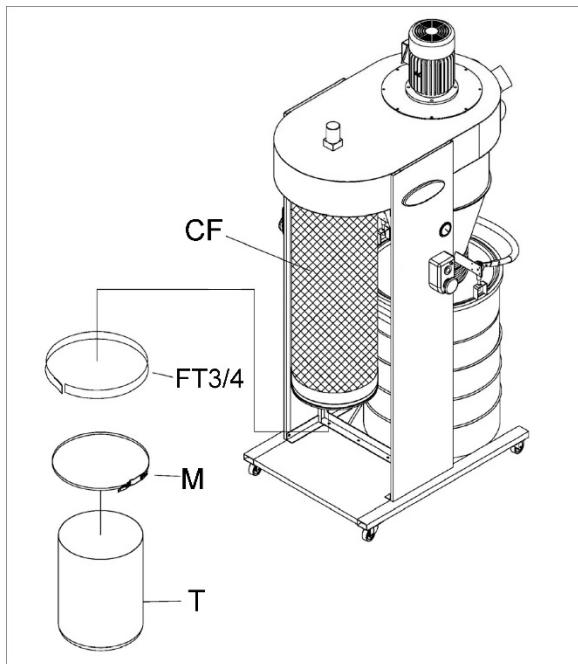

Figure 12
21. Apply 3/4-in. wide strip of foam tape (FT3/4, Figure 12) to lower end of canister filter, just above the lip.
22. Install canister collection bag (T) beneath canister filter and secure with bag clamp (M).